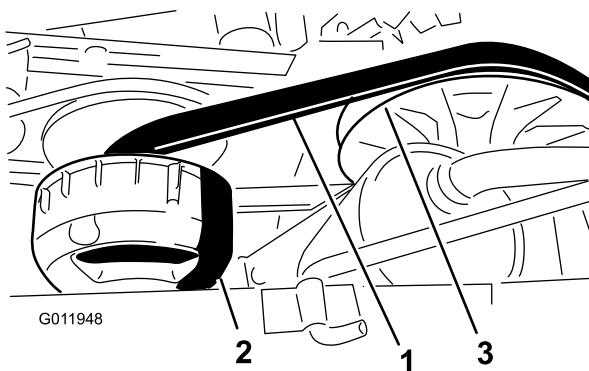

Figure 67
4. Rotate and inspect the belt (Figure 67) for signs of excessive wear or damage.
3. Rotate and route the belt over the secondary clutch (Figure 67).
4. Remove the belt from the primary clutch (Figure 67).
5. Align the new belt over the primary clutch (Figure 67).
6. Rotate and route the belt over the secondary clutch (Figure 67).